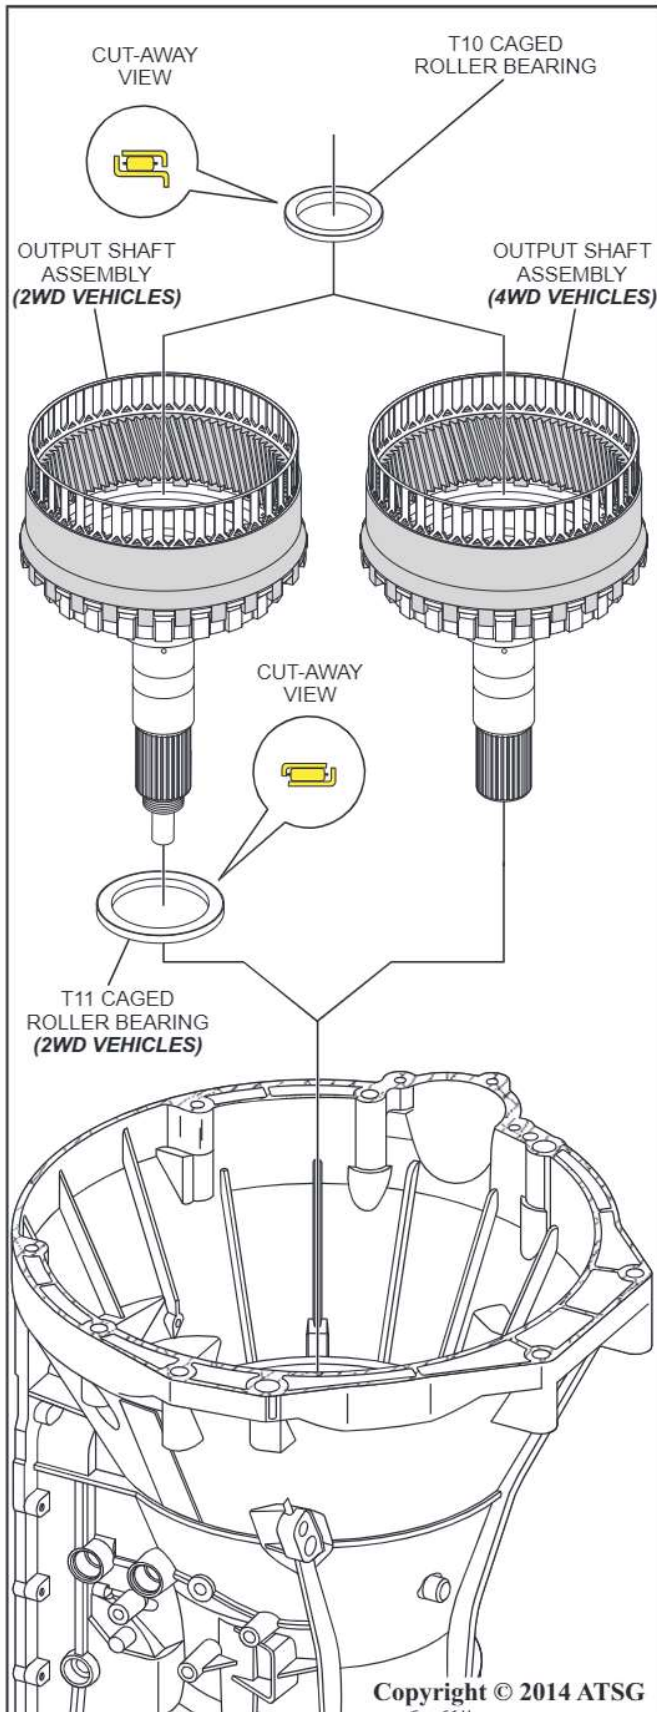

Figure 55
37. Remove the T10 caged roller bearing, the output shaft assembly and the T11 caged roller bearing **(2WD vehicles only)** as shown in Figure 55 and set aside for disassembly and cleaning.